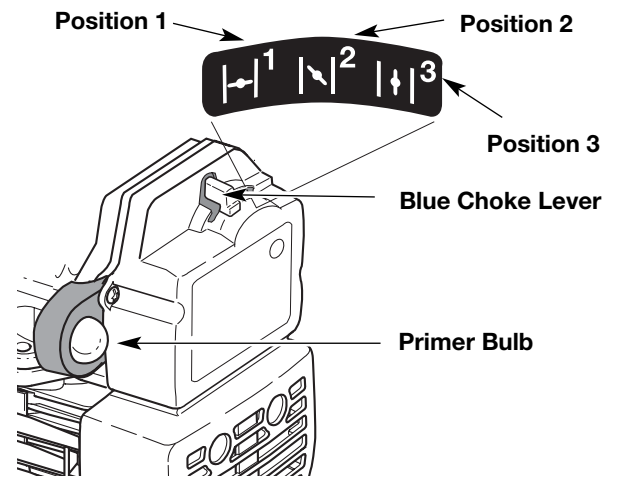

Fig. 7
3. Place the blue choke lever in **Position 1** (Fig. 7).
4. Fully press and release the primer bulb 10 times, slowly. Some amount of **fuel should be visible in the primer bulb** and fuel lines (Fig. 7). If you can't see fuel in the bulb, press and release the bulb as many times as it takes before you can see fuel in it.
10. Once the engine is warmed up, place the blue choke lever in **Position 3** (Fig. 7). Release the throttle control to the idle position and begin operation.
**IF...** The engine hesitates, return choke lever to Position 2 (Fig. 7) and continue warm up.